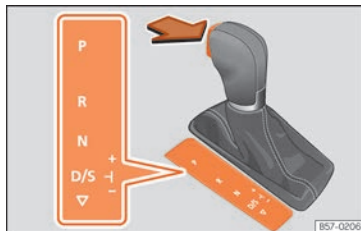

Fig. 247 Selector lever lock.
- Press the brake pedal *and*, at the same time, hold the lock button in the direction of the arrow » **Fig. 247**.